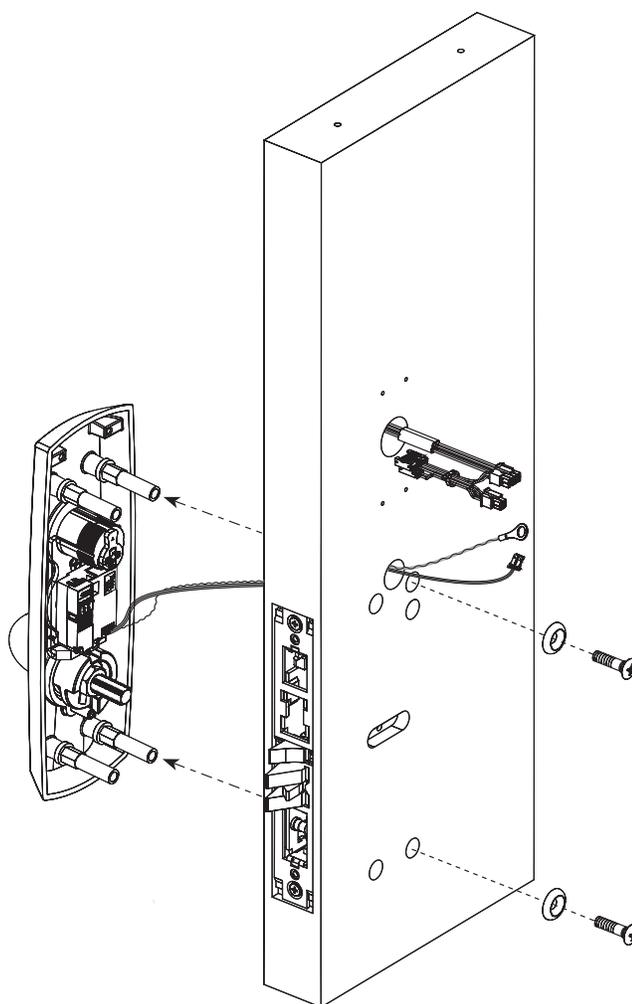

Figure 9b
3. Fasten trim assembly to door using (2) 1/4-20 oval head screws and (2) finish washers (Figure 9b).